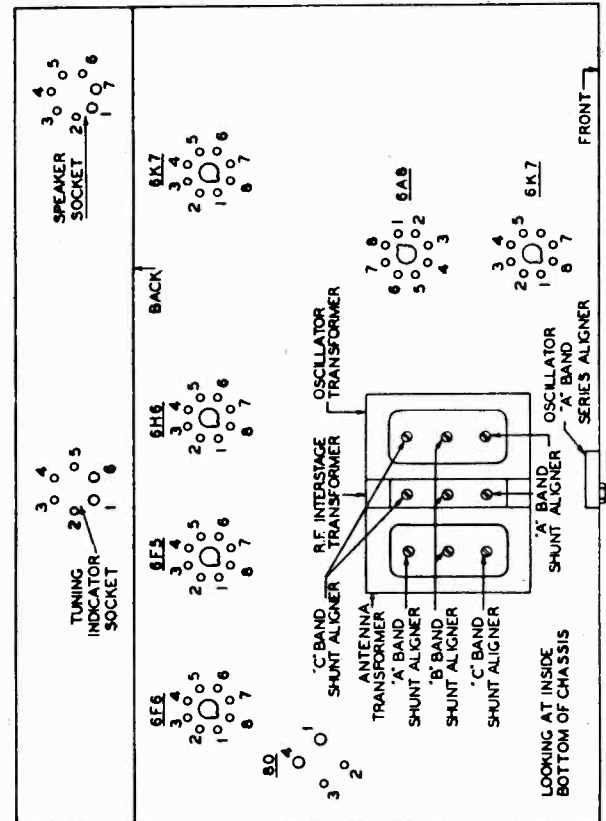

Fig. 2. Terminal Layout for Voltage Measurement Chart and Location of the Various Aligning Capacitors.
In making any alignment adjustments, always adjust the test oscillator's output voltage to the minimum value where a steady tone is obtained. The alignment capacitors for the radio frequency circuits are easily accessible from the rear of the receiver, and the aligning capacitors for the intermediate frequency circuits are accessible either through the bottom of the cabinet or through the bottom of the cabinet shelf depending upon the style of cabinet. See Figure 2.
In making any alignment adjustments on these receivers, it will not be necessary to remove the chassis from the cabinet. The aligning capacitors for the intermediate frequency circuits of these receivers are easily accessible from the rear of the receiver, and the aligning capacitors for the radio frequency circuits are accessible either through the bottom of the cabinet or through the bottom of the cabinet shelf depending upon the style of cabinet. See Figure 2.
3. Now, noting from Figure 2 the location of the aligning capacitors for the first and second I. F. transformers, align the I. F. capacitors of the second I. F. transformer.
6. Now, noting from Figure 2 the location of the aligning capacitors for the first and second I. F. transformers, align the I. F. capacitors of the second I. F. transformer.
9. Now, noting from Figure 2 the location of the aligning capacitors for the first and second I. F. transformers, align the I. F. capacitors of the second I. F. transformer.
12. Now, noting from Figure 2 the location of the aligning capacitors for the first and second I. F. transformers, align the I. F. capacitors of the second I. F. transformer.
The various values of voltages listed in the following table are obtained by measuring between the various tube socket contacts and the chassis base, with the tubes in their respective sockets. The receiver is, therefore, in operation when the measurements are made. Figure 2 shows the terminal layout of the sockets with the proper terminal numbers.
Figure 2 shows the location of all the aligning capacitors used in this receiver.